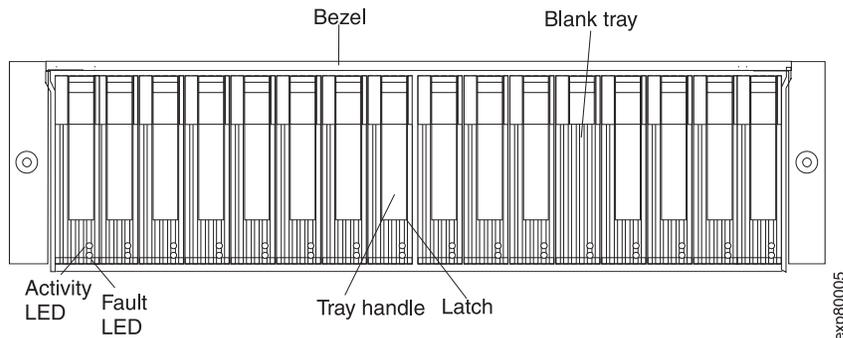

Figure 87. Hot-swap hard disk drive LEDs
2. Check for Fault LEDs shown in Figure 87. If any amber LEDs are lit, see “Solving problems” on page 143.